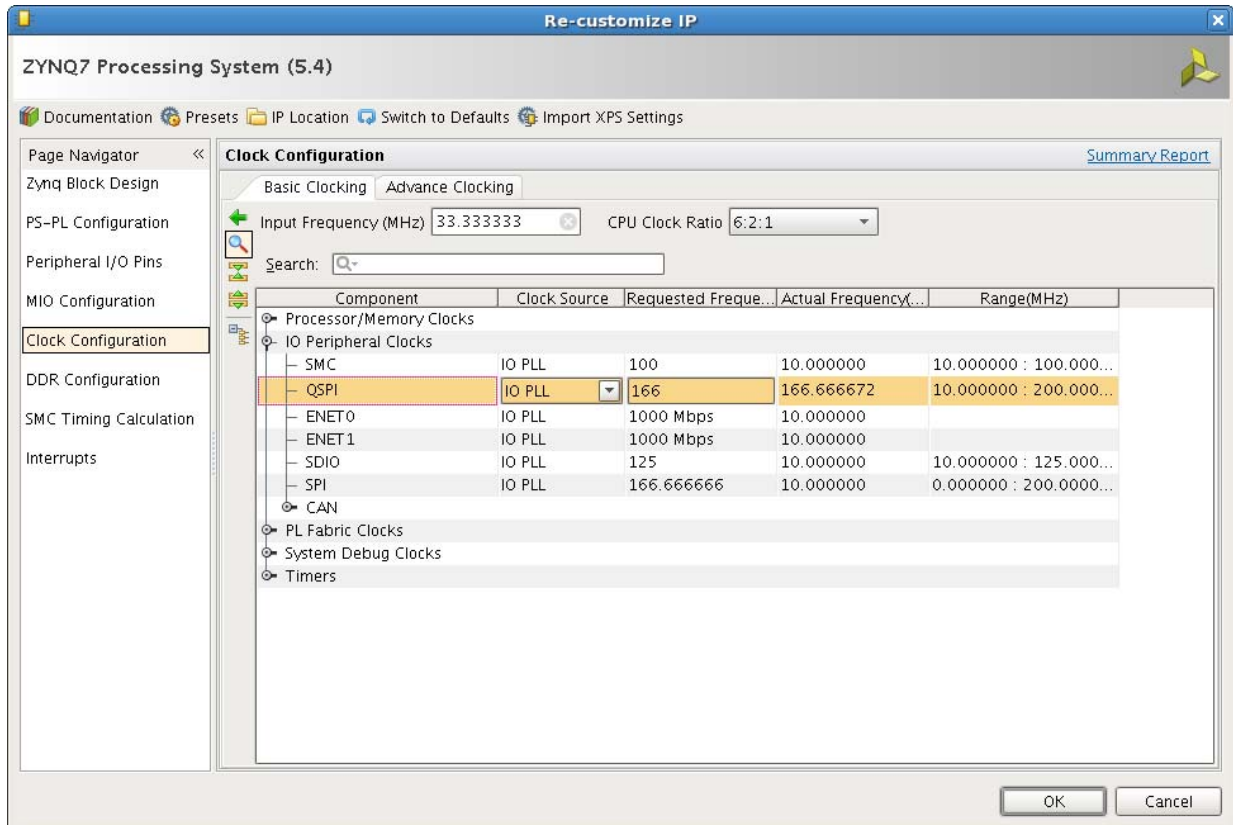

Figure 3-81: Modify the Quad SPI Clock Frequency
2. Modify the Quad SPI clock frequency as shown in Figure 3-81.